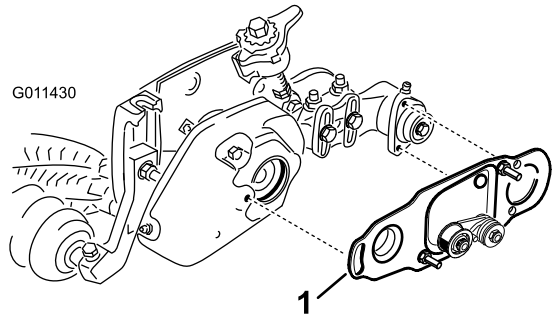

Figure 48
5. If a roller brush is installed, make sure the brush plate (Figure 48) is parallel to the cutting unit side plate and is fully inserted into the rubber grommets.